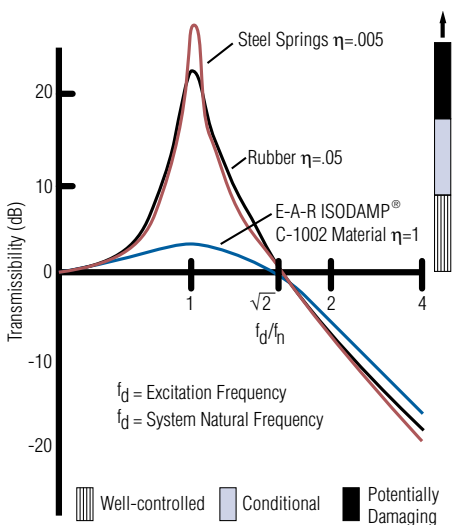

Figure 5: Transmissibility of Isolation Materials with Different Loss Factors. Loss Factor (η) is a Measure of Damping
Figure 5 plots the transmissibility characteristics of several types of isolation materials. The shaded bands on the right-hand side of the figure indicate that transmissibility of less than about 6 dB of resonance can be considered well-controlled; between 7 and 15 dB is conditional and may cause equipment to malfunction; and above 15 dB the level can be damaging, depending on the force levels involved. For reference, 6 dB is a magnification factor (X) of 2X; 10 dB is 3X and 20 dB is 10X. So, for example, if an isolated system has an amplitude at resonance of 10 dB, the vibration output forces are 3 times the input forces.